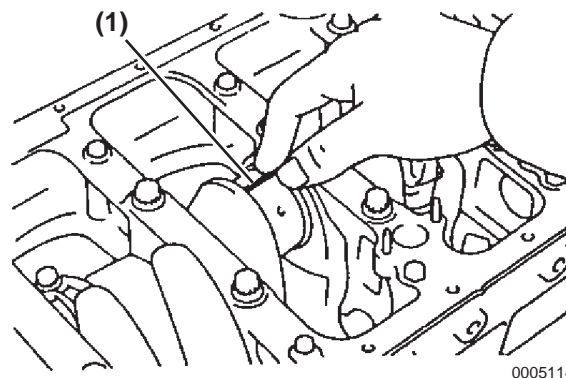

Figure 5-84
8. Attach a strip of the plastigage **(Figure 5-84, (1))** to the crank pin.